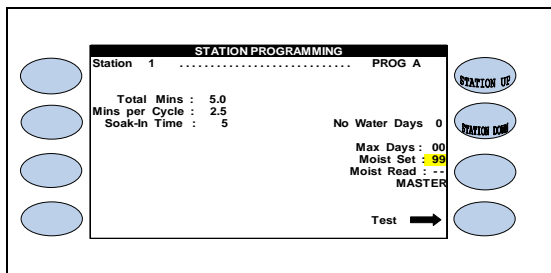

Figure 5.38
- **MOIST SET:** The Calsense Moisture Sensor has its own numerical system of moisture readings. Typically it reads between the range of 45 (dry) to 85 (wet). By keeping moisture set points at 99, the sensors are never allowed to read above the set point value, and the controller waters the full programmed time. This occurs for the Master station as well as all slave stations assigned to the Master Station. After a few weeks, the slave areas should be checked and readjusted if necessary. If the slave area is too dry, adjust its maximum time to 10% more. If the area is too wet, decrease it by the same percentage. In both cases, the area should be rechecked after another few weeks, with readjustments made until the proper soil moisture level is achieved (Figure 5.38).